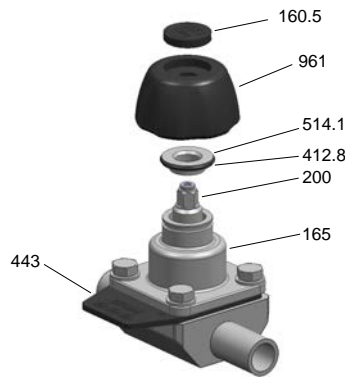

Figure 2: SISTO-C HV, setting the travel stop in closing direction
5. Mount the cover [160.5] to secure the handwheel [961] on the stem [200] (see Fig. 2).